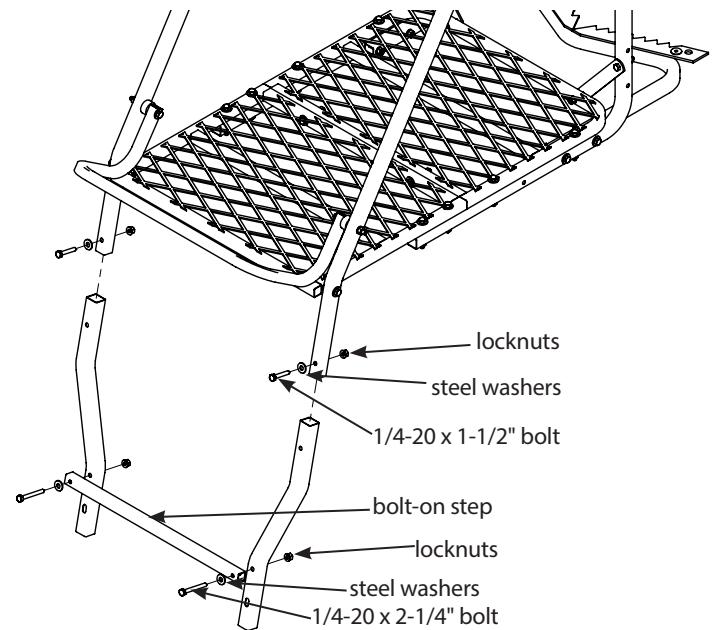

Figure 17
12. Insert the two side rails into the flared rails (410054). Secure using (2) provided 1/4-20 x 1-1/2" bolts, locknuts and steel washers. **SEE FIGURE 17.**
13. Attach the bolt-on ladder step (410034) to the front side of flared rails using (2) provided 1/4-20 x 2-1/4" bolts, locknuts and steel washers. **SEE FIGURE 17.**